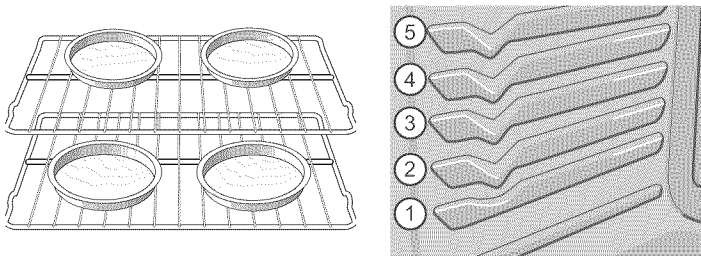

Figure 7: Pan spacing and rack positions
- Allow 2" to 4" (5.1 to 10.2cm) around the utensil(s) for proper air circulation. Be sure the pans do not touch each other, the door, sides or back of the oven. (Figure 7)